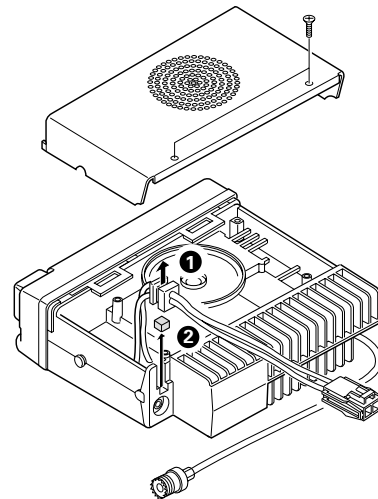

Fig. 1
1. Remove the upper and lower half of the transceiver case, and lift the DC cord bushing ( ❶ ) from the chassis.
2. Remove the pad as shown in Figure 1 ( ❷ ).
3. Insert the KCT-19 cable ( ❸ ) into the chassis ( ❹ ).